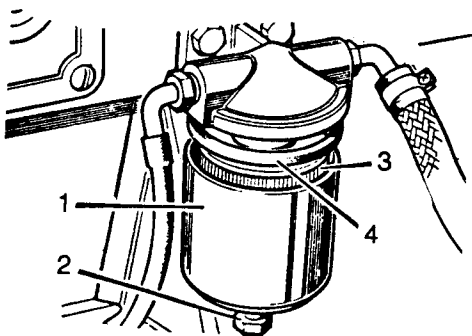

Fig C6.3
- (1) Refer to Fig C6.3. Support the element holder (1).
- (2) Unscrew the special bolt (2) at the bottom of the holder and remove the holder.
- (3) Remove and discard the used element (3).
- (4) Thoroughly clean the element holder in petrol.
- (5) Check the upper and lower centre seals and the seal for the special bolt (2). Replace with new seals if any show signs of deterioration or damage.
- (6) Fit the new element, large hole uppermost, into the holder using the seal (4) supplied with the element.
- (7) Place the element holder in position and secure with the special bolt (2).
- (8) Start the engine and check for fuel leaks around the filter.